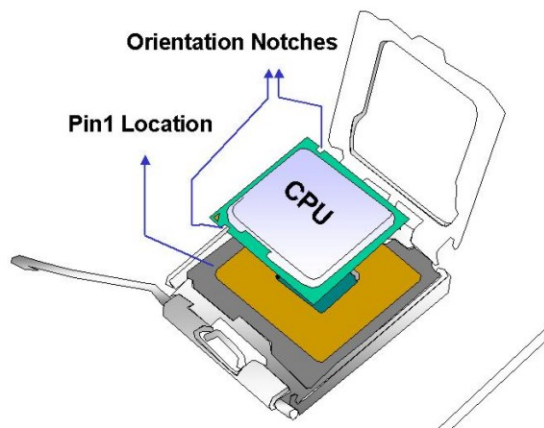

Figure 4-4: Insert the Socket LGA771 CPU
- Step 7:** Insert the CPU. Gently insert the CPU into the socket. If the CPU pins are properly aligned, the CPU should slide into the CPU socket smoothly. See **Figure 4-4**.